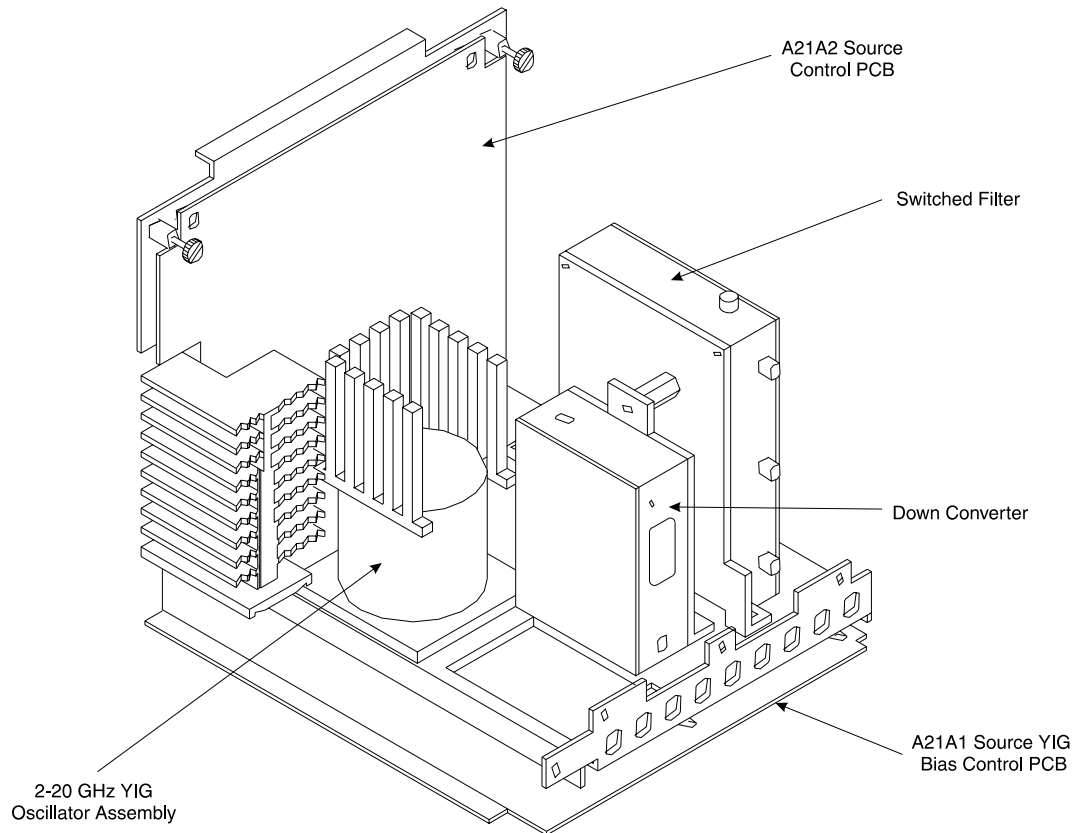

Figure 8-16. *Signal Source Module Assemblies Removal Details*
- Step 1. Unfasten the two PCB retainers at the top corners of the A21A2 Source Control PCB (see Figure 8-16). To unfasten, turn screwdriver slot $\frac{1}{4}$ turn *counter-clockwise*.
- Step 4. Remove the screw that fastens the front apron of the source module chassis to the heatsink of the A21A1 PCB. See Figure 8-16.